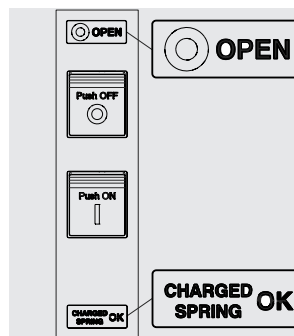

Figure 33
2. Circuit-breaker open with springs charged (see Figure 33).